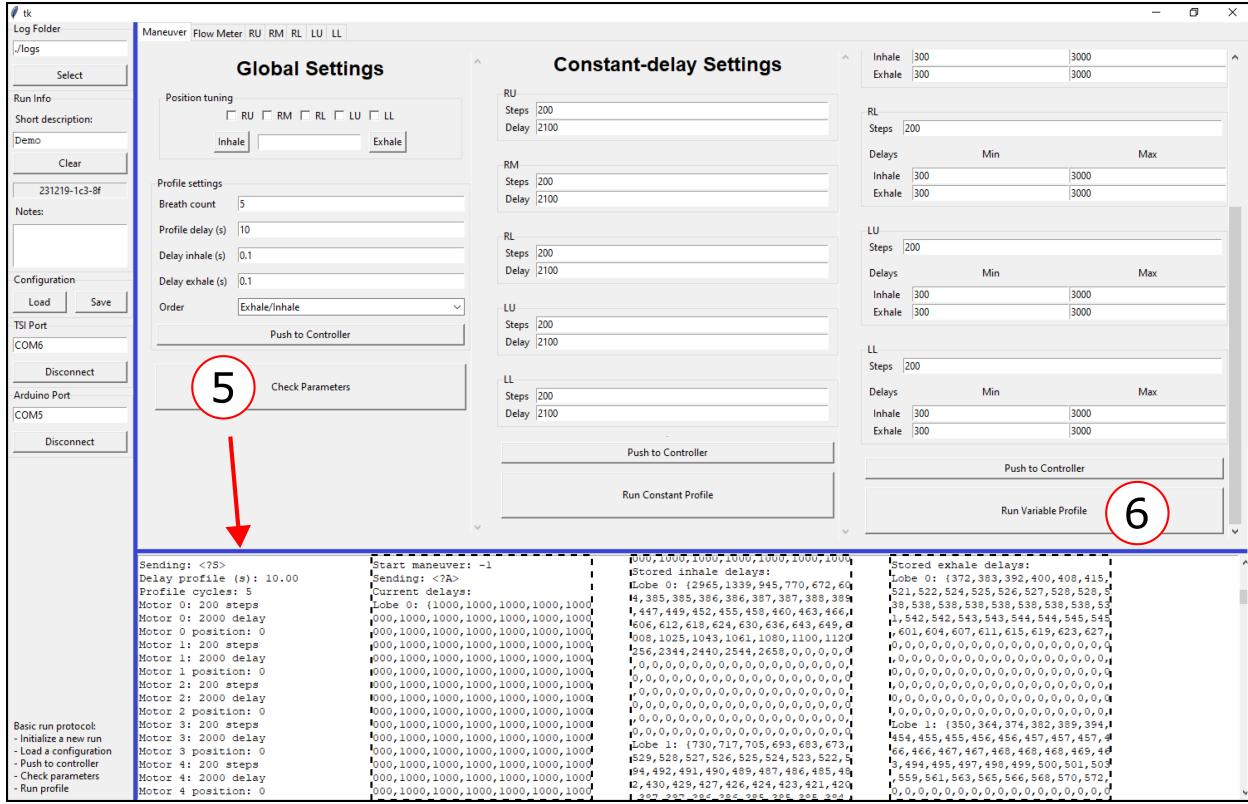

Figure 13: Checking settings and running the maneuver.
5. Check the parameters with the button (**Figure 13**). This will report all of the global, lobe, and maneuver parameters. Ensure that all parameters align with the expected values for the demonstration, validation, or delivery experiment.
6. Run the profile (**Figure 13**).
4. Run the maneuver from the “Maneuver” tab. (**Figure 13, 16**)